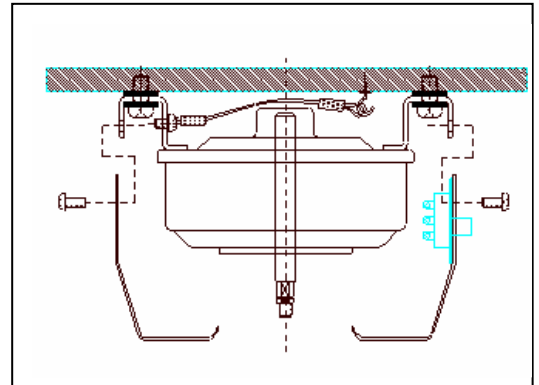

Figure 9
- C1. Position the motor housing to the motor aligning screw holes. See Figure 9